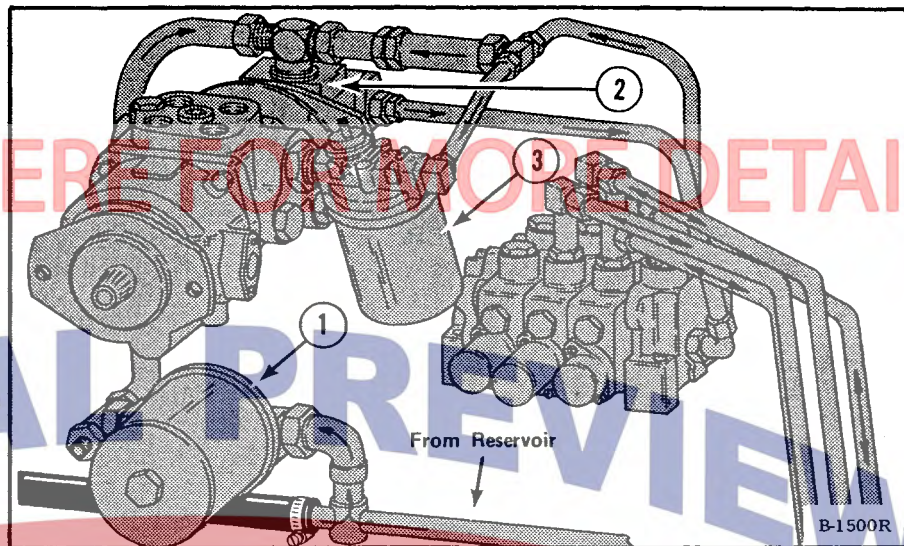
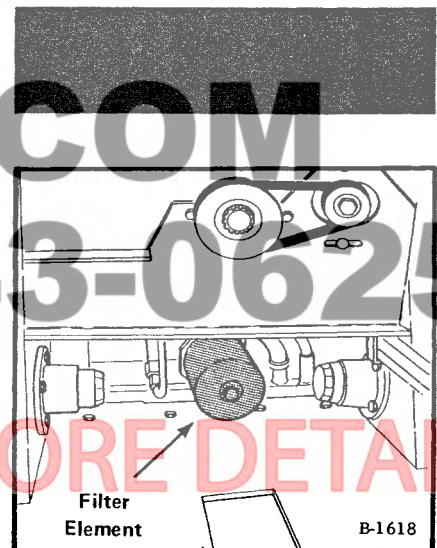

Fig. 34 Hydraulic Fluid Flow
Fig. 36 Twenty-Five (25) Micron Filter
Description: The 720 hydraulics are operated by a direct engine driven vane pump (See Figure 34 for the system fluid flow). The Bobcat side tanks are joined by a manifold at the bottom and serve as the fluid reservoir.
The 720 uses two filters to protect the hydraulics. A spin-on 25 micron filter is located on the reservoir suction line, under the transmission pump assembly (Fig. 34, Item 1). A removeable plate is located on the lower rear of the machine to permit replacement of this filter (Fig. 36).
A second 10 micron filter is located at the right side of the transmission pump (Fig. 34, Item 3) and protects the transmission. This filter should be replaced after each 1,000 hours of operation, or when the "Filt" indicator remains lit. (See "10 Micron Filter Replacement, page 20.) If replacement of this filter fails to extinguish the "Filt" light, the suction filter should also be replaced.
2. Remove the plate under the rear of the machine, and using a filter wrench, loosen and unscrew the filter element (Fig. 36).